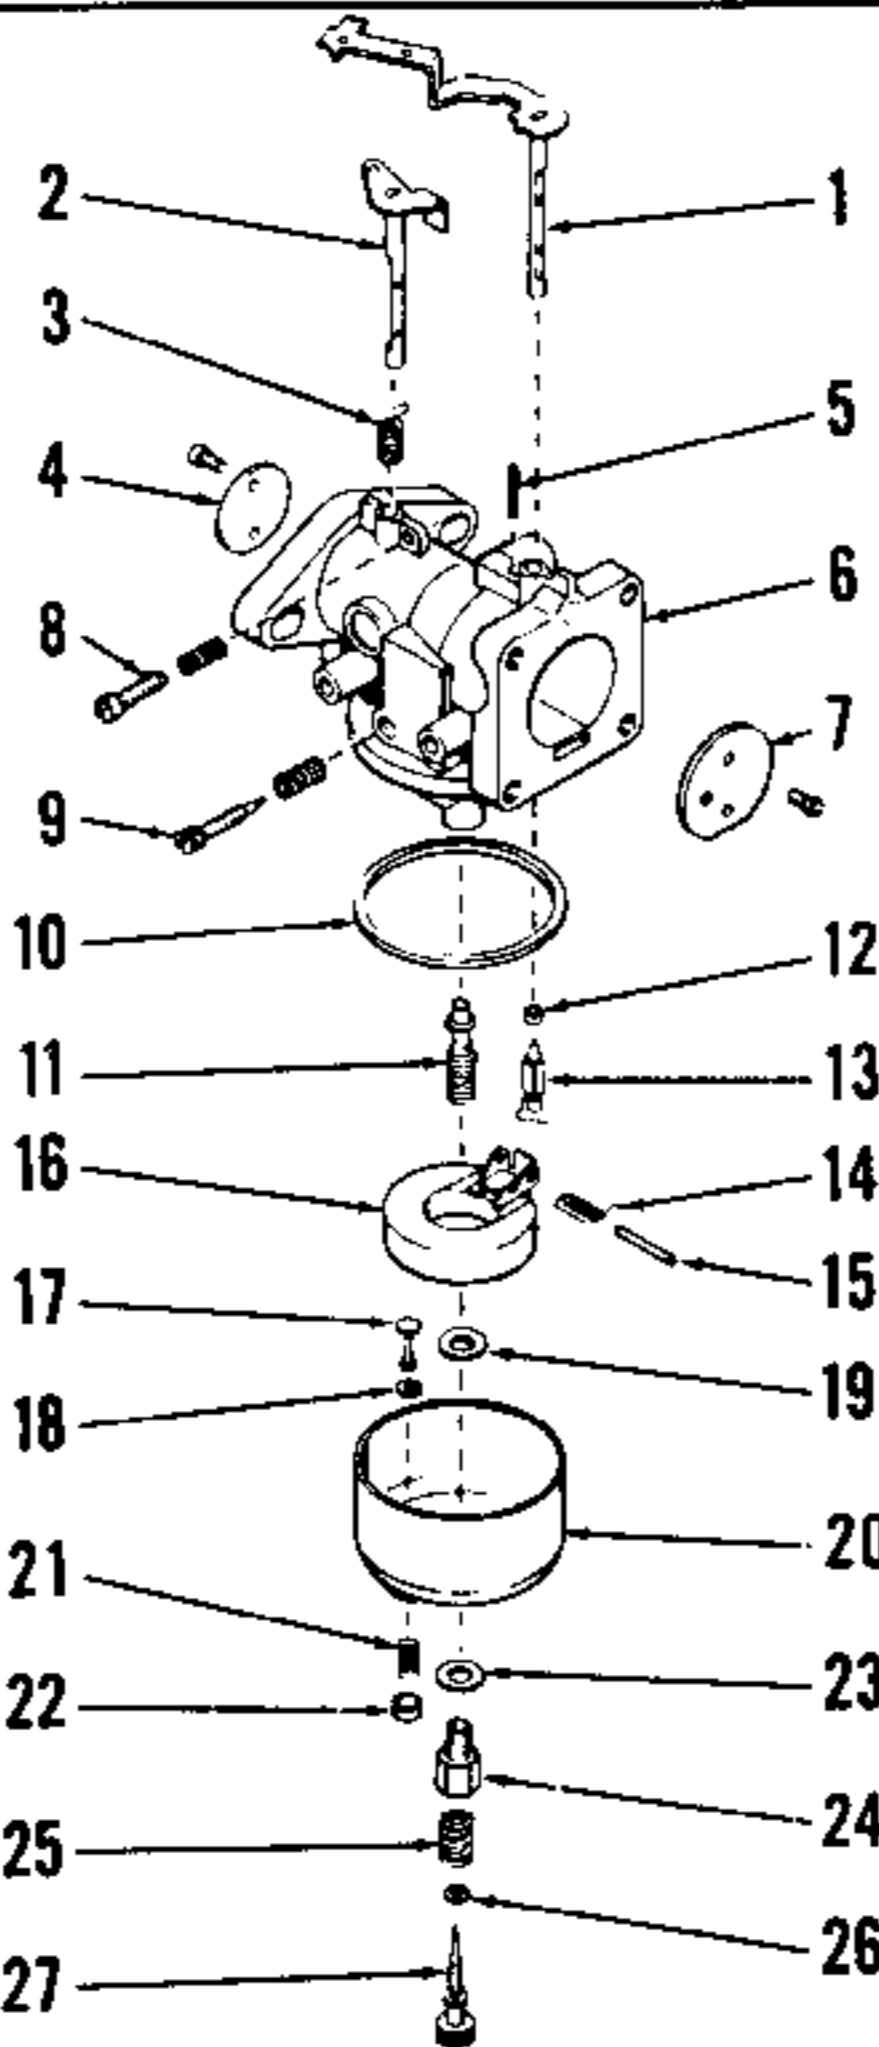
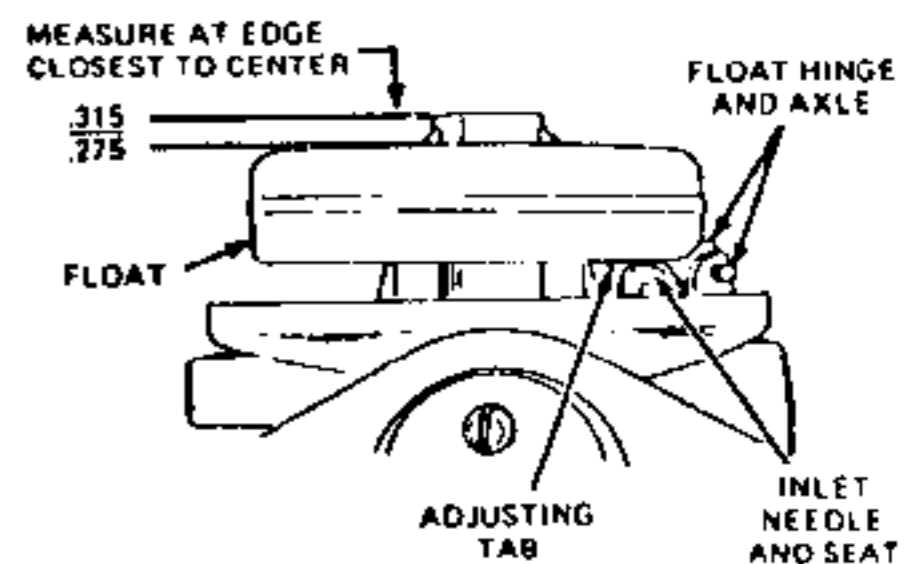
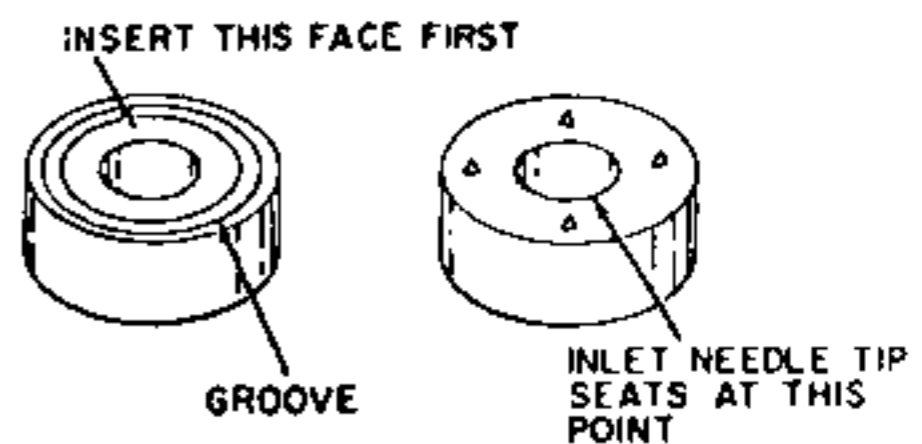

Fig. T55 - Exploded view of typical Walbro carburetor used on all models.
Fig. T56 - Float setting should be measured as shown. Bend adjusting tab to adjust float setting.
Fig. T57 - The Viton inlet fuel valve seat must be installed grooved side first.
CARBURETOR. A Walbro Model LM float type carburetor is used. To adjust carburetor, refer to Fig. T55 and proceed as follows: Turn idle mixture screw (9) clockwise until lightly seated, then back out 1 3/4 turns. Turn main fuel adjusting needle (27) clockwise until lightly seated, then back out 2 3/4 turns. Start and operate engine until normal operating temperature is reached. Then, readjust main fuel needle, if necessary, until engine runs smoothly and evenly under operating conditions.
To check float setting, hold carburetor and float assembly in inverted position. A distance of 0.275-0.315 inch (7.0-8.0 mm) should exist between float and center boss measured as shown in Fig. T56. Carefully bend adjusting tab on float to adjust float setting. A Viton seat (12-Fig. T55) is used with fuel inlet valve (13). The renewable seat must be installed grooved side first in bore so inlet valve will seat at smooth side. See Fig. T57.
If main nozzle (11-Fig. T55) is removed and is the original type (Fig. T58), obtain and install a new service